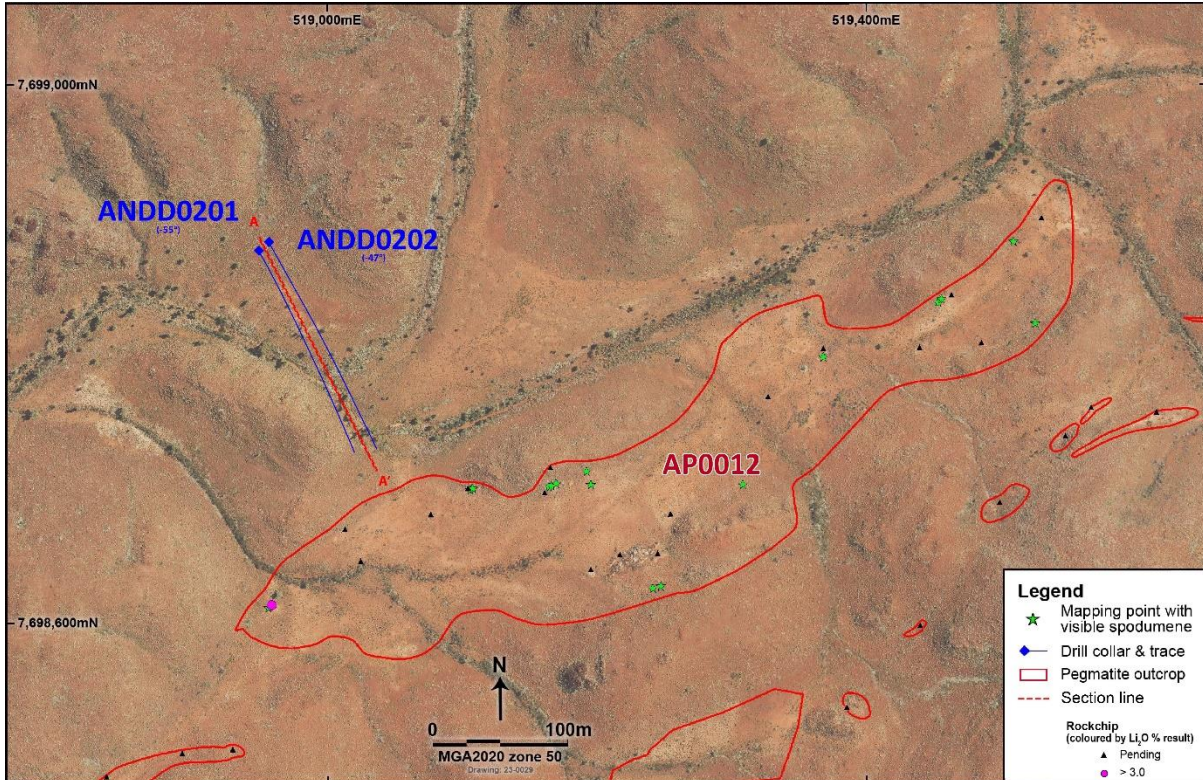

Figure 2: AP0012 prospect showing drill holes and cross section line, locations of rock chip samples and visible spodumene in outcrop
- **Mapping of nearby outcropping pegmatites confirmed extensive visible spodumene mineralisation, including over the 900m x 100m AP0012 prospect (see Figure 2)**